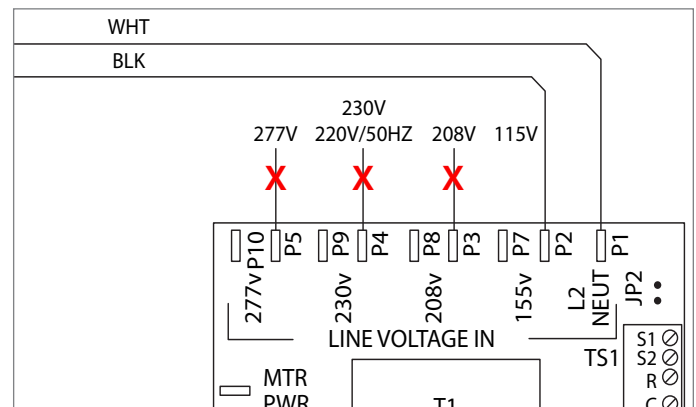

Figure 4 – Removing the FCRB incoming power
- b. Remove BLACK wire from the appropriate line voltage pin on FCRB. The wire's location will depend on the unit's voltage. (See Figure 4.)